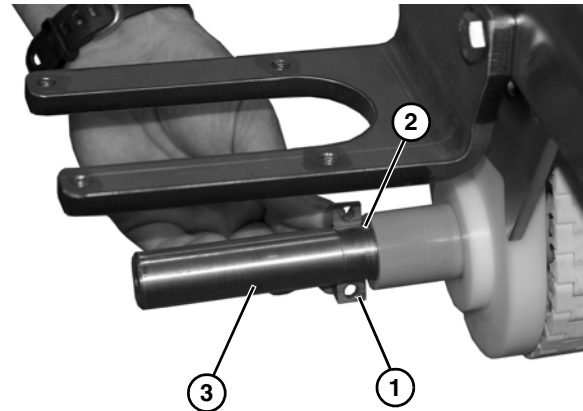

Figure 16
5. Install one half of collar clamp (**Figure 16, item 1**) into recessed area (**Figure 16, item 2**) on conveyor shaft (**Figure 16, item 3**).